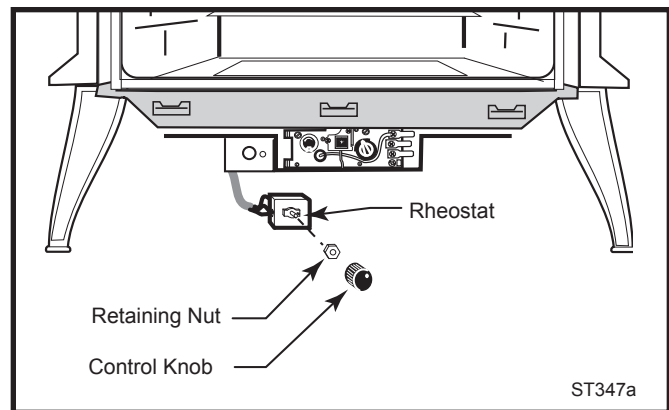

Fig. 16 Attach rheostat to control panel.
6. Route the rheostat control switch and wire forward under the stove. (Fig. 16) Use the wire tie to secure the fan and rheostat wire harnesses together to the tubing under the heater.